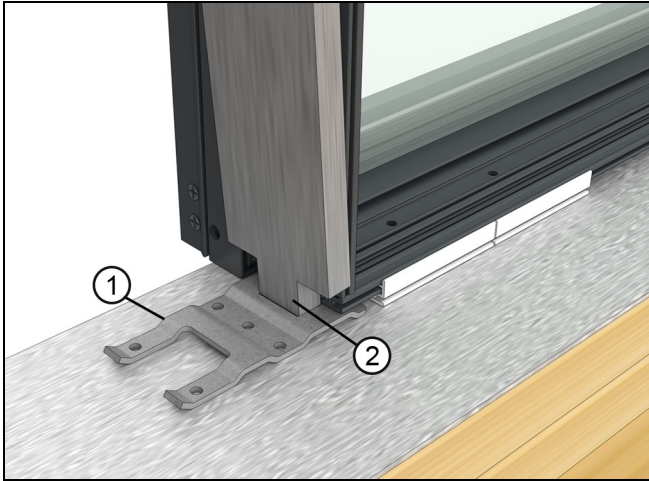
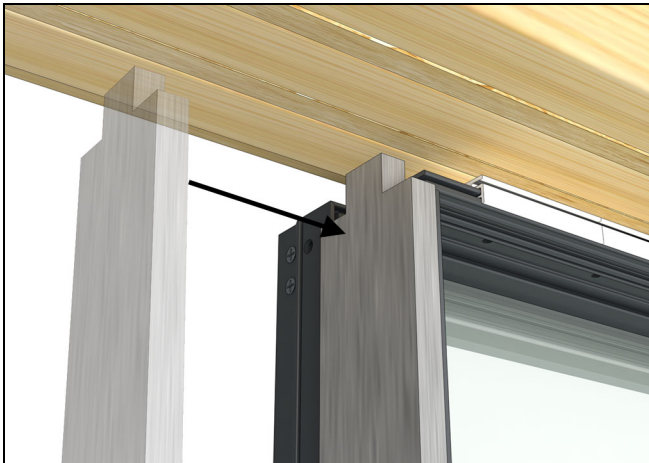

Figure 43
Figure 44
12. Position the steel tight against the step in the frame and so the tab on the mull steel fits in the hole in the sill bracket. Then clamp the steel to the frame. See Figure 43, Figure 44, and Figure 45.